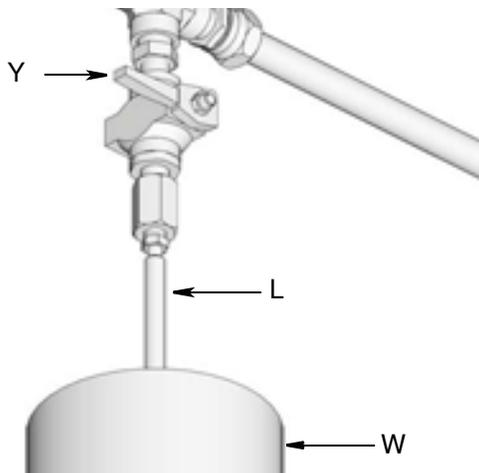

FIG. 28:
- a. To relieve pressure between the Refill Pump (F) and Auto-Fill Shut Off (B), open ball valve (bv) (FIG. 28). Pressure will be released and excess fluid will drain out of the drain tube (L) and into the lubrication overflow container (W).